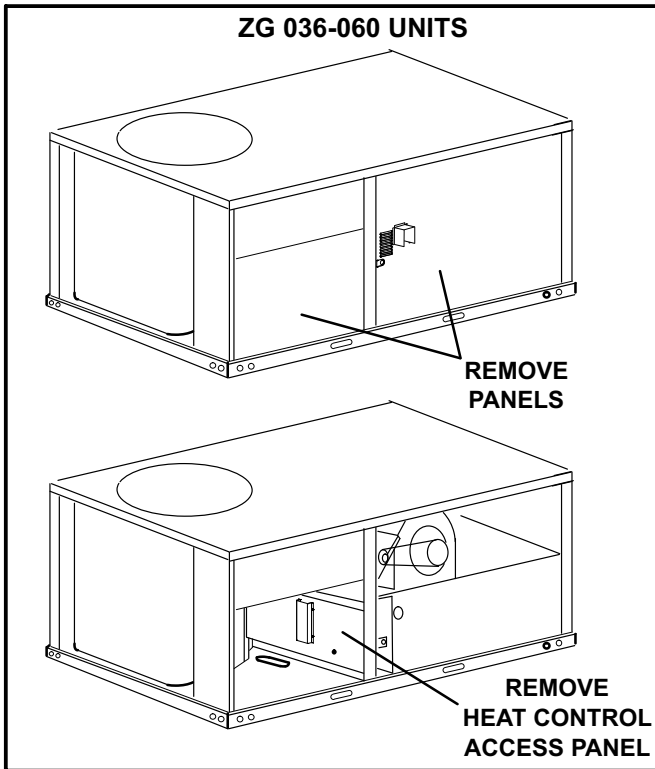

FIGURE 1
- 2- Open access panels as shown in figure 1. On LGH/KG/KD units, remove the mullion between the heat and compressors sections.